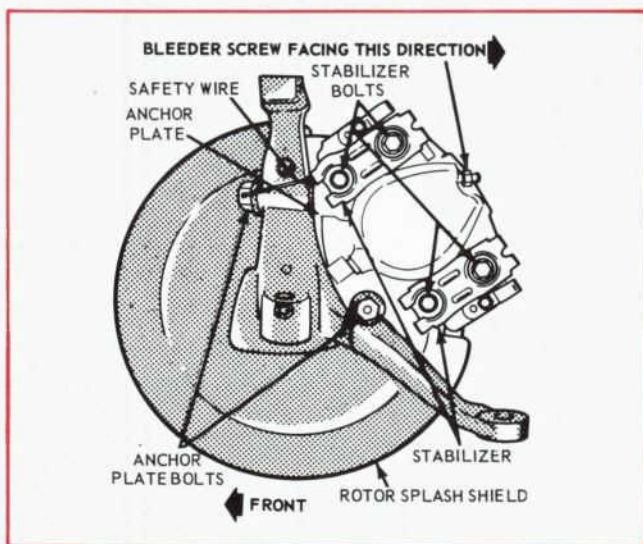

Figure 13 - A rear view of the floating caliper disc brake as it appears when installed to the anchor plate and wheel spindle arm.
5. Remove the caliper locating pins. See Figure 13.